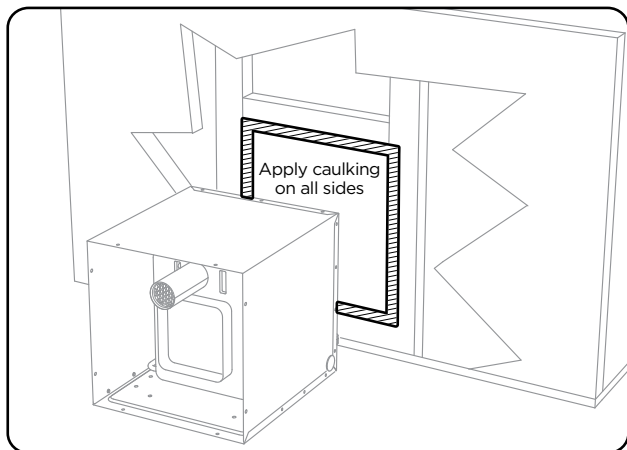

Fig. 3
- Position Hot Water System housing into the frame opening with the front edge aligned evenly to the exterior wall (See Figure 3).